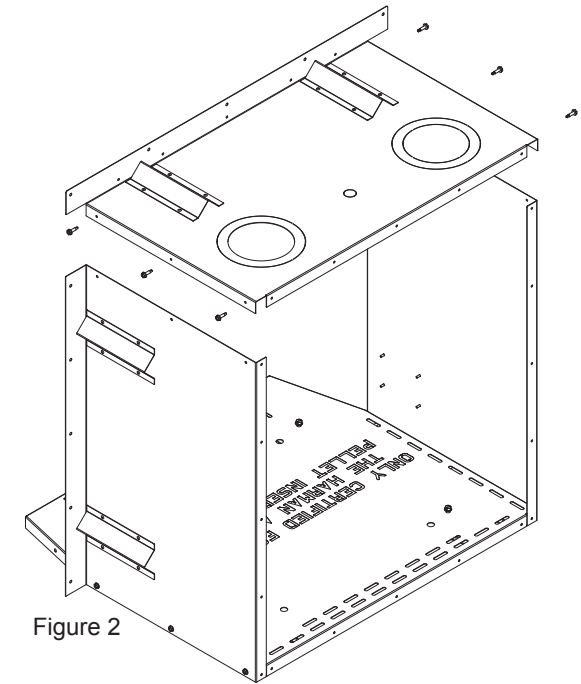

Figure 2
- The top panel can now be put into place, with the bend going out over the side panels. Align the holes and secure with (6) tek screws. Figure 2.